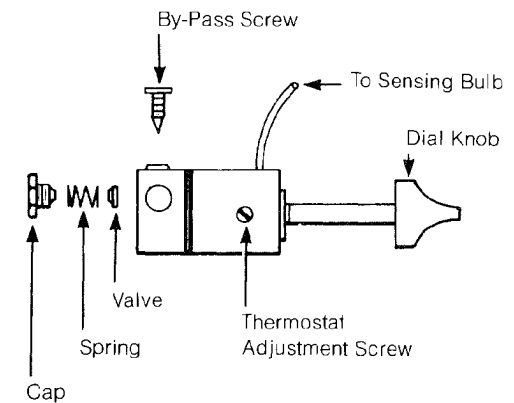

Fig. 2 – Thermostat
Problem: Flame goes out. The thermostat is out of adjustment. To adjust it, turn the dial to "zero". If the flame does not go down to the "low" by-pass setting, follow this procedure (See Fig. 2):
2. If procedure (1) does not correct the problem, adjust the set screw out (in counterclockwise direction) until the flame goes down to the "low" position.
If the flame keeps going out when the dial is turned to (O), remove and clean the by-pass screw which is located as shown in Fig. 2.